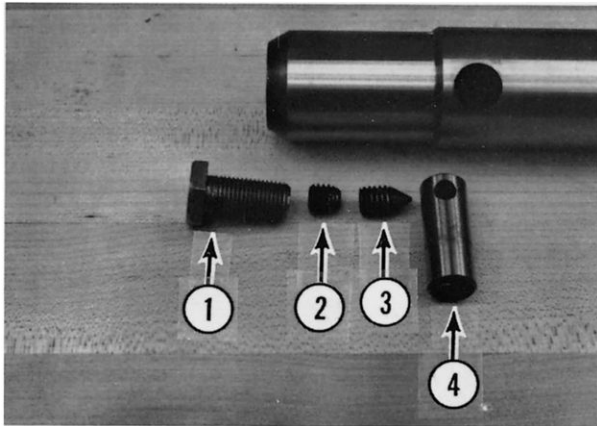

Fig 10-1
A. Remove the agitator shaft plug (1, Fig. 10-1).
B. Remove the locking set screw (2, Fig. 10-1) and the cone point set screw (3, Fig. 10-1).
C. Remove the agitator shaft pin (4, Fig. 10-1), use a punch to drive the pin from the back side of the shaft.